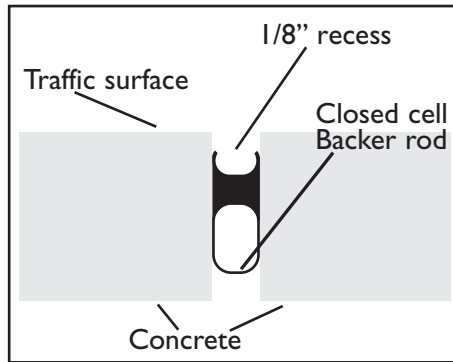

Figure 1
**Application:** Ideal surface temperature should be 60°F - 85°F ( 16°C 0- 29°C) Sealant should be applied to the prepared joint in a continuous operation. Tool the sealant slightly concave using dry-tooling techniques. **Sealant must be recessed below the traffic surface.** (See Figure 1).
**Shelf Life:** Approximately one (1) year when stored in original, unopened container in a dry area at temperatures below 80°F (27°C).